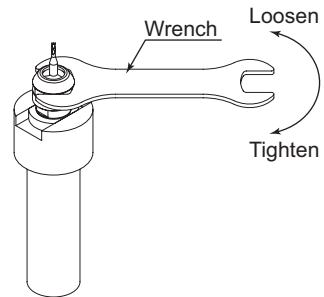

Fig. 10
- ④ Insert the tool in to the collet chuck and set the wrench on the collet holder. Set the wrench on the chuck nut, and tighten the chuck nut by turning clockwise. (Fig. 10)